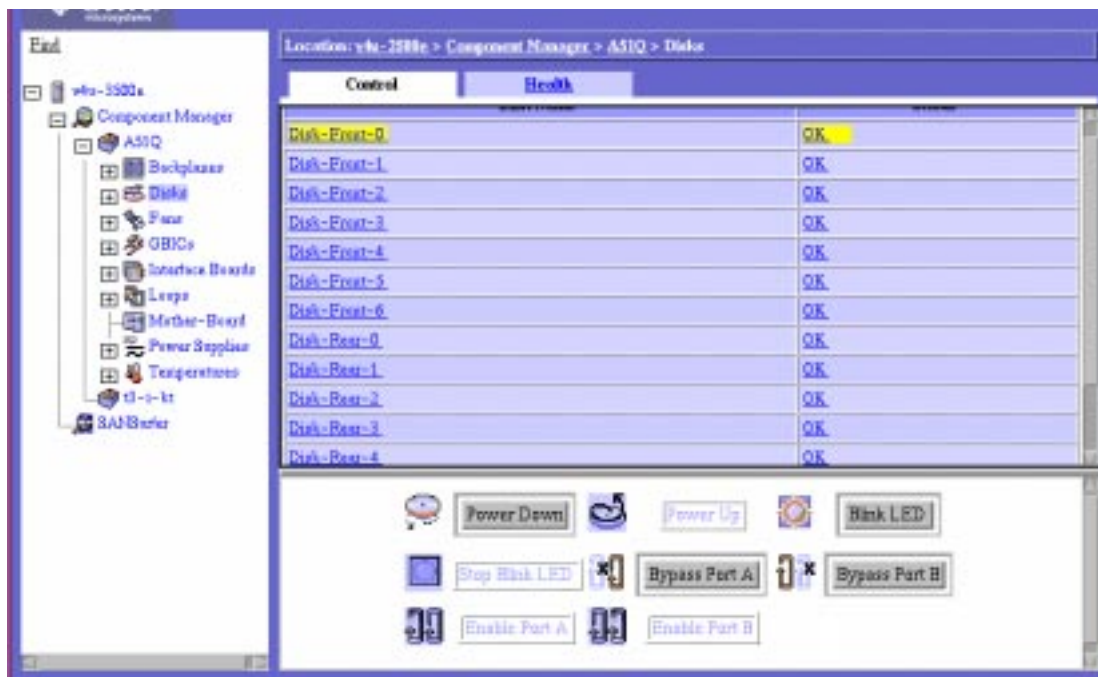

FIGURE 6-1 Sun StorEdge A5x00 Disk Control Window
3. **Select the Control tab (see FIGURE 6-1).**